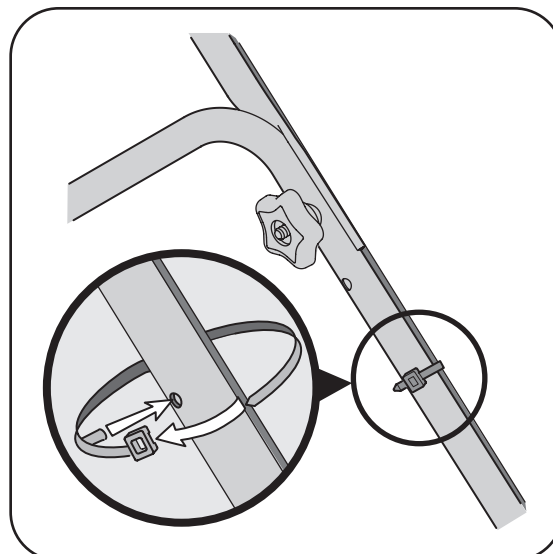

Figure 3-7: Secure cable to lower handle using a cable tie.
1. Secure the cable to the lower left handle near the base of the unit with a cable tie. See Figure 3-7. Trim off any excess.